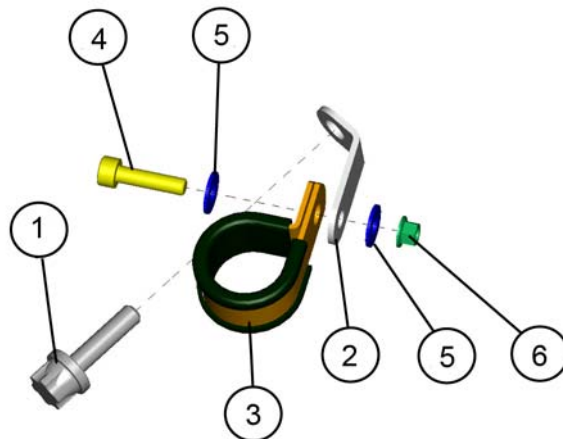

Bild 5/ Figure 5
Siehe Bild 5.
3. Install the clamp with the bracket loosely to the return hose. Refer to figure 5.